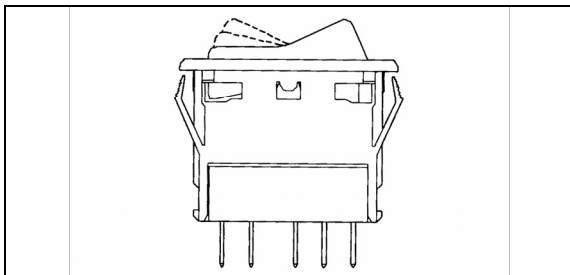

FIGURE 38: SWITCH
3. To install a new switch, reverse the procedure (Fig. 38).